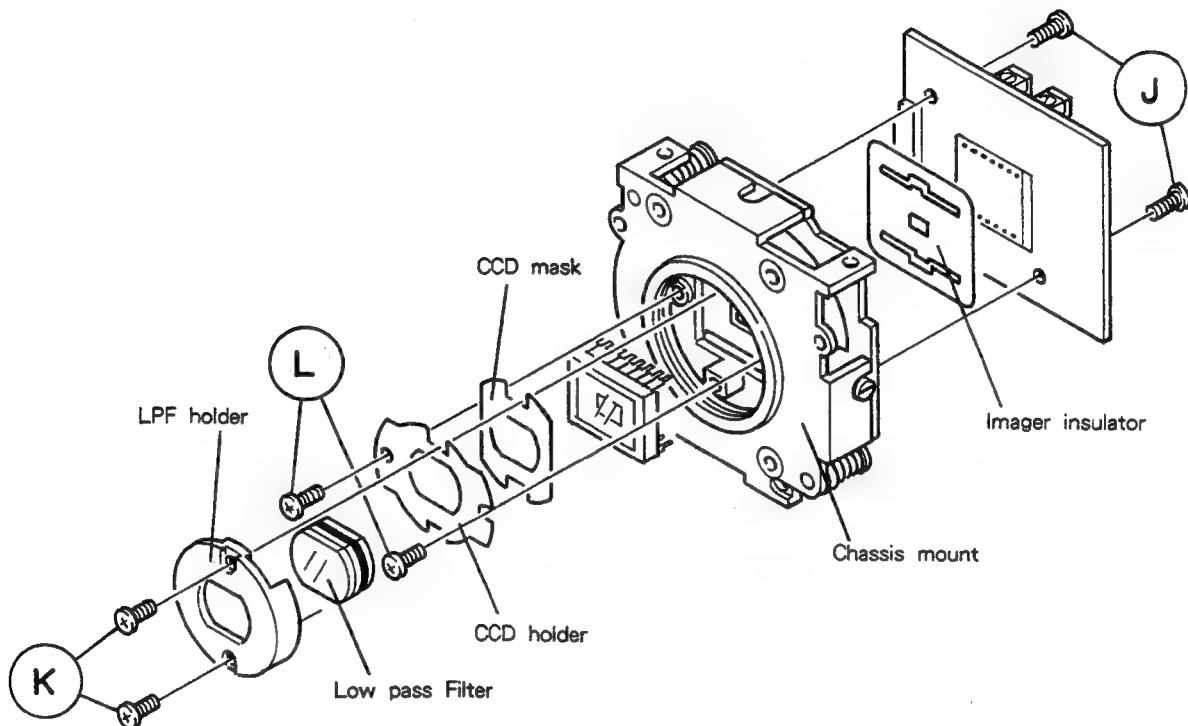

Figure 4 Replacing the CCD imager
- (1) Follow Paragraph 2-2 or the removal of the chassis mount to remove the chassis mount.
- (2) Remove the two screws (J) shown in Figure 4.
- (3) Pull out the imager module board in following the arrow and remove it from the chassis mount.
- (4) Remove the two screws (K) in Figure 4 and remove the LPF holder and the low-pass filter.
- (5) Remove the two screws (L) in Figure 4 and remove the CCD holder, CCD mask, and CCD imager.